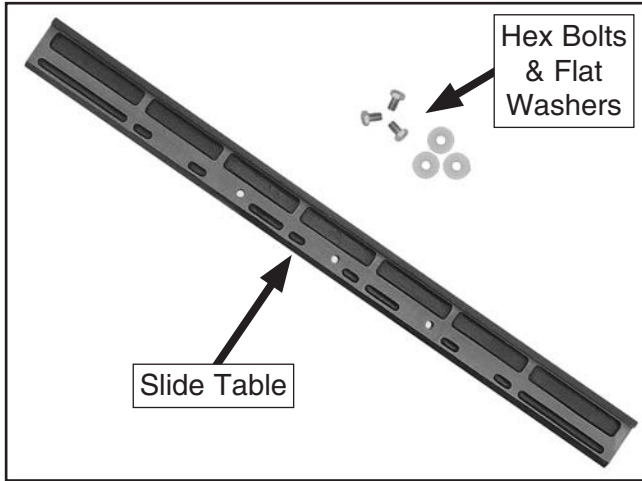

Figure 16. Slide table dismantled.
- Then place the slide table on a flat surface and remove the three hex bolts and flat washers, as shown in **Figure 16**.